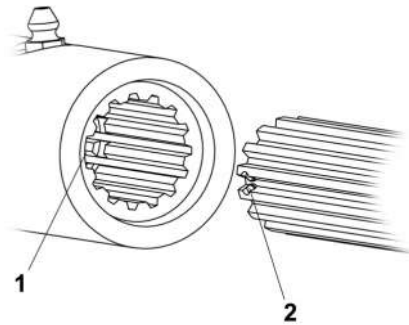

Figure 4
- Install the tractor's section of driveline into the snowblower's driveline by aligning the stamped marks (fig.4 item 2) (located between the spline at the end of the shaft) with the large groove in the hollow tube (item1) on the snowblower's section. Only one position allows shaft to be inserted.